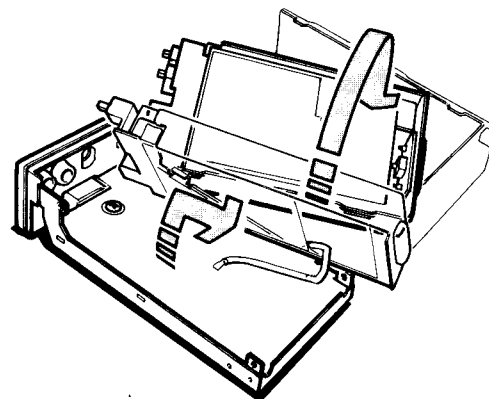

Fig. 5-1-7
5. Remove the 2 knobs on the top panel (VOLUME and SQUELCH) and push IN the [LIGHT] and [HIGH/LOW] SWITCHES. Remove the 4 screws on the sides of the chassis, and open the chassis as shown in Fig. 5-1-7.